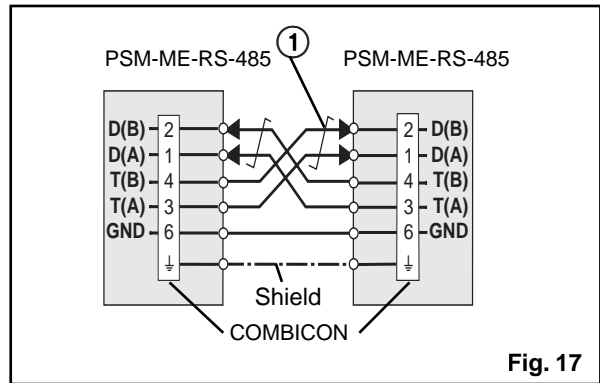

Fig. 17
- 6) To couple two RS-48 interfaces, connect the connections acc. to fig. 17. (⊕ = twisted pair)